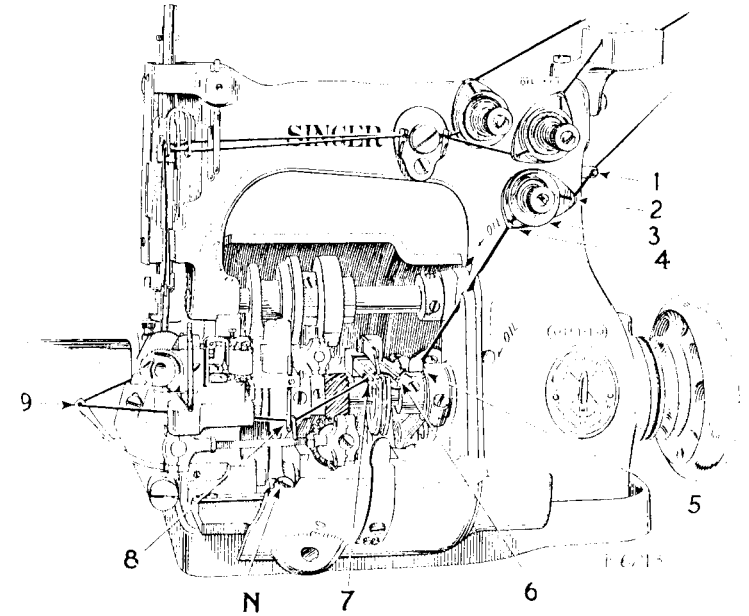

FIG. 4. THREADING THE LOOPER
(SEE FIGS. 4 AND 5)
To set the looper closer to or farther away from the needles, loosen the clamping screw (N, Fig. 4, page 5) and move the looper carrier to the required position, then securely tighten the clamping screw (N).